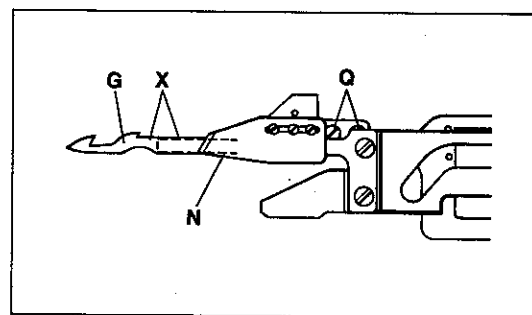
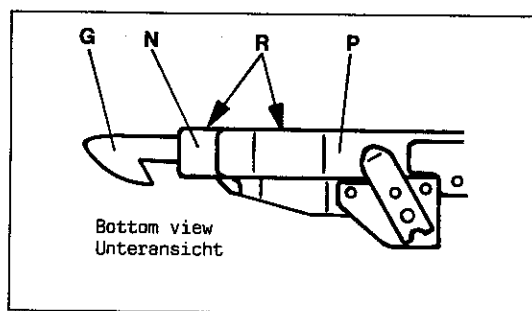

Fig.51
Fig.53
Set the leaf spring (N, Fig. 51) for clamping the looper thread so that the edges (X) of lower knife (G) and leaf spring (N) are flush and aligned.
2.4 Loosen screws (Q, Fig. 51) for making the following settings:
Besides this, the edge (R, Fig. 53) of leaf spring (P) has to be set aligned with edge (R) of leaf spring (N). Retighten screws (Q, Fig. 51).